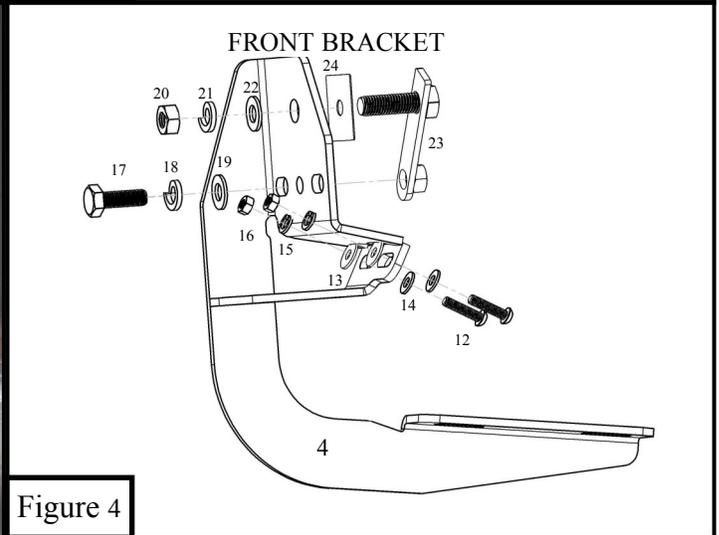
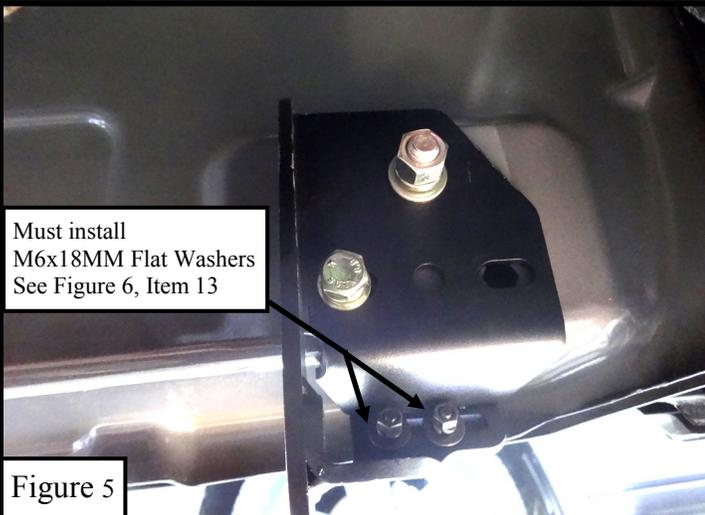

Figure 4
Figure 5
- Install (1x) "B" mounting bracket (item 4), and attach it to the rocker panel using (1) M10 hex head bolt (item 17), (1x) M10 lock washer (item 18), (1x) M10 flat washer (item 19), (1x) M12 hex nut (item 20), (1x) M12 lock washer (item 21), (1x) M12 flat washer (item 22), (2x) M6 button head bolt (item 12), (2x) M6 18mm flat washer (item 13, see figure 5), (2x) M6 12mm flat washer (item 14), (2x) M6 lock washer . *Do not fully tighten at this time, Figure 4 & 5.*